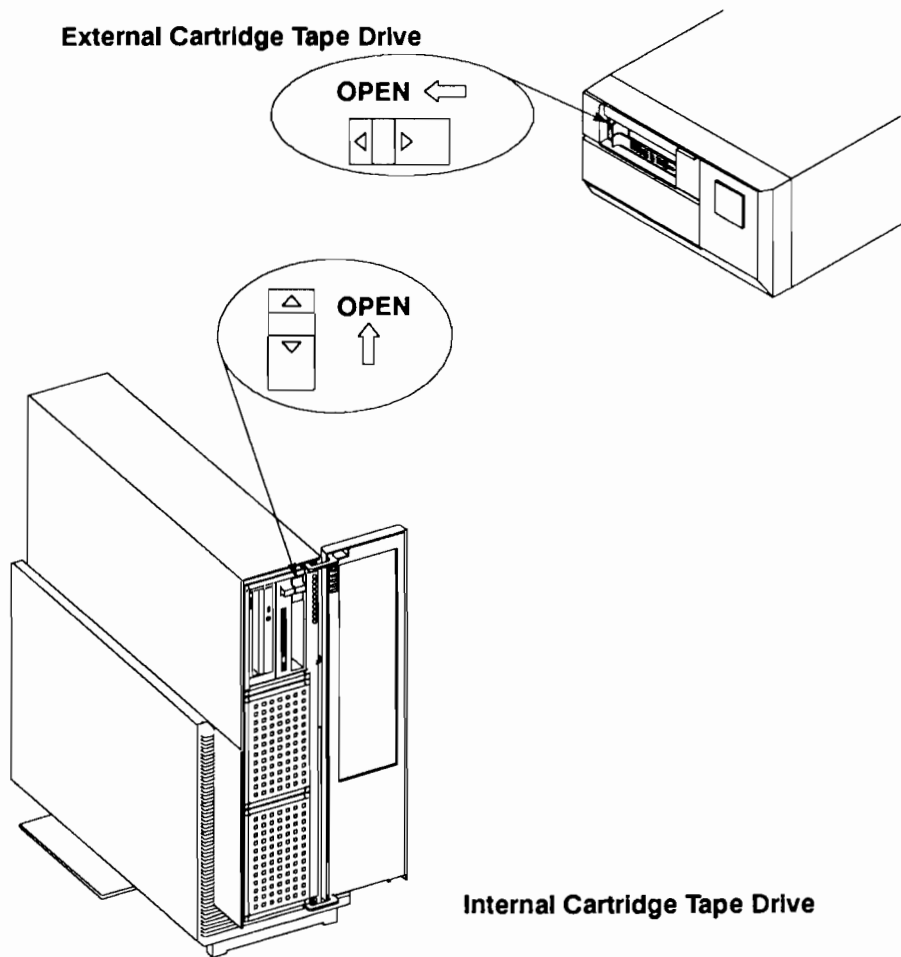

Figure 5-3. Opening the Cartridge Tape Drive
2. Open the tape drive (see Figure 5-3).